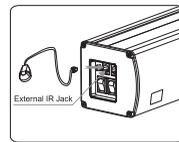

Figure 27
3. For hidden installation or IR window is being kept out by something, please take out the IR Receiver Head and plug it to the relevant hole, and then install it at the position where IR signal is available (Figure 27)